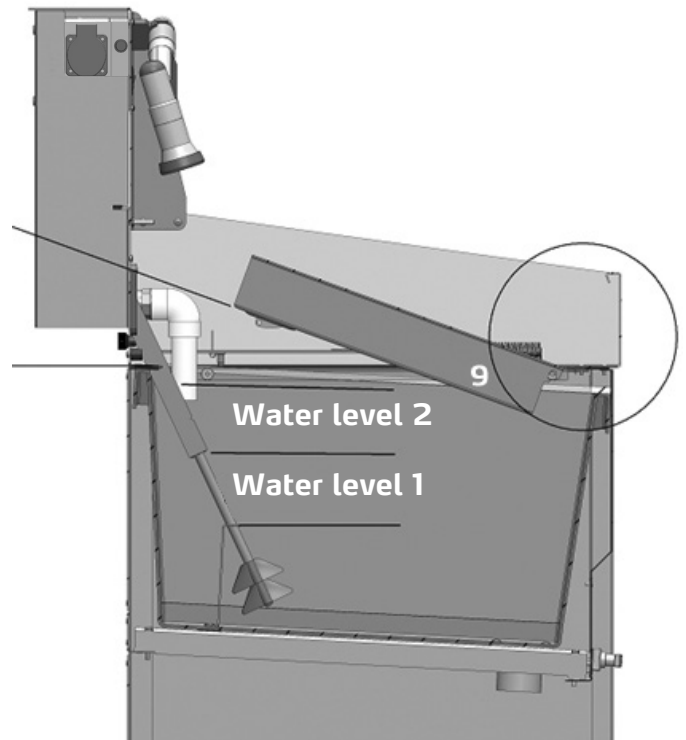

Fig. 4
- Clean rollers in the roller prewash basin (scope of delivery in ColorFree top Set) (9) Fig. 4
Before the washing water can be treated during further operation, a minimum water level must be available (water level 1) Fig. 4.
See figure 4. The tank with the mounting brackets (9) is placed at an angle of about 20° diagonally on the mounting spigots.